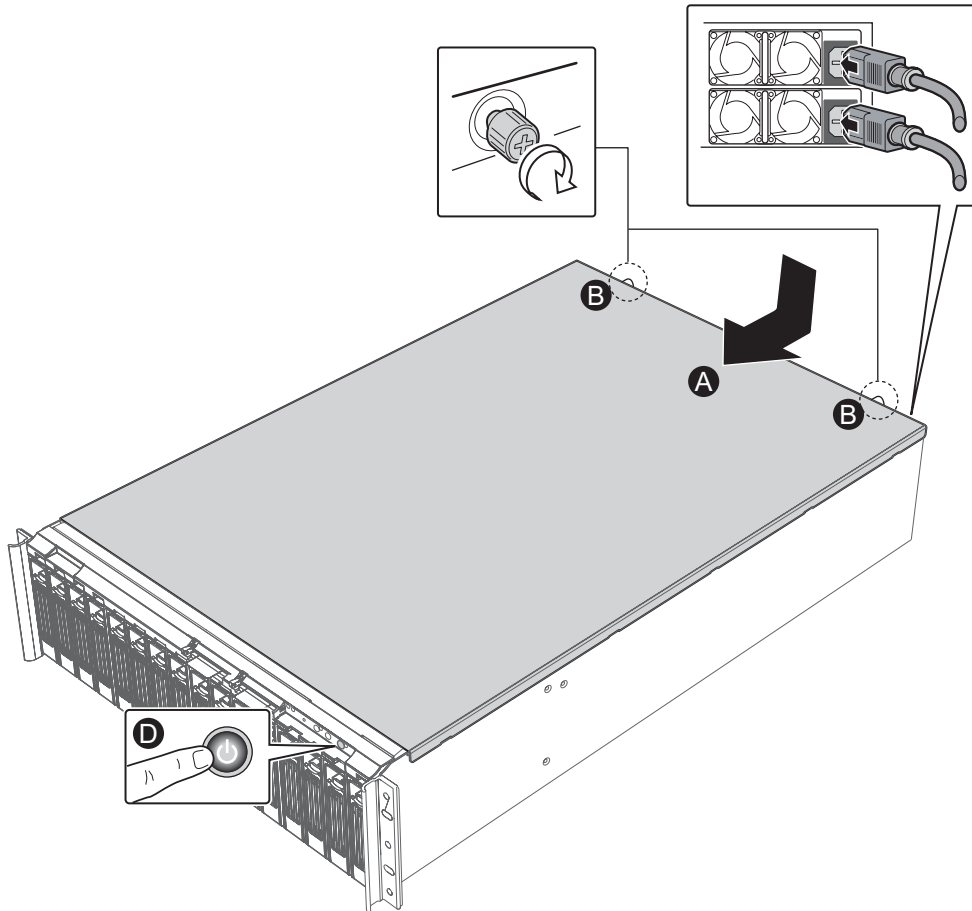

Figure 22. Re-attaching the Chassis Cover
- A. Facing the front of the system, insert the chassis cover into its slot. Push the top cover forward until it reaches the front of the system. See Figure 22.
- B. Tighten the two thumb screws on the back of the chassis cover. See Figure 22.
- C. Re-attach the AC power cables. See Figure 22.
- D. You can now power on the Intel® Storage System SSR316MJ2. See Figure 22.